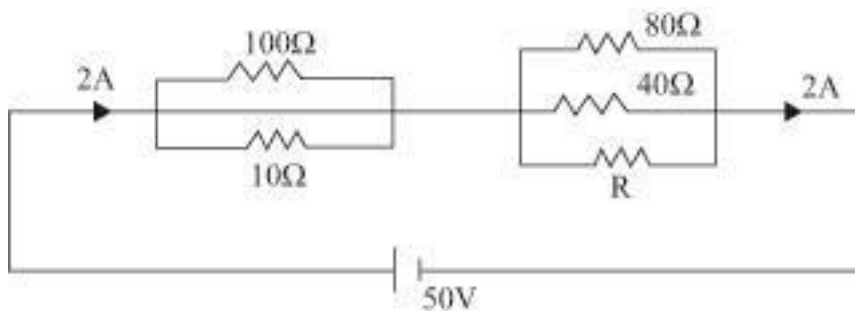

Figure1.18
3. Determine the value of R if the power dissipated in  $10\Omega$  Resistor is 90W in figure 1.18.